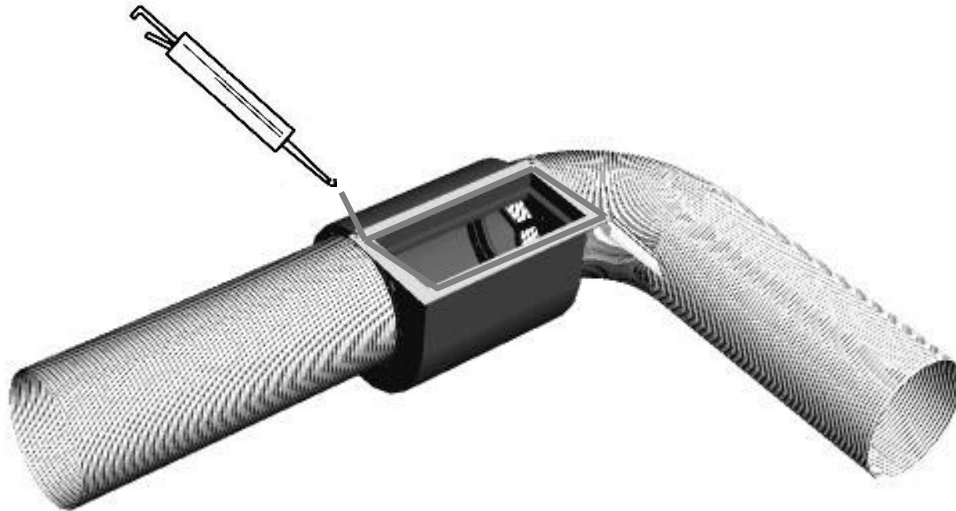

Fig. 19
- When the fan system has been already assembled, put a bead of high temperature resistant silicon in the upper side of fan unit (Fig. 19). The fan must be perfectly sealed.